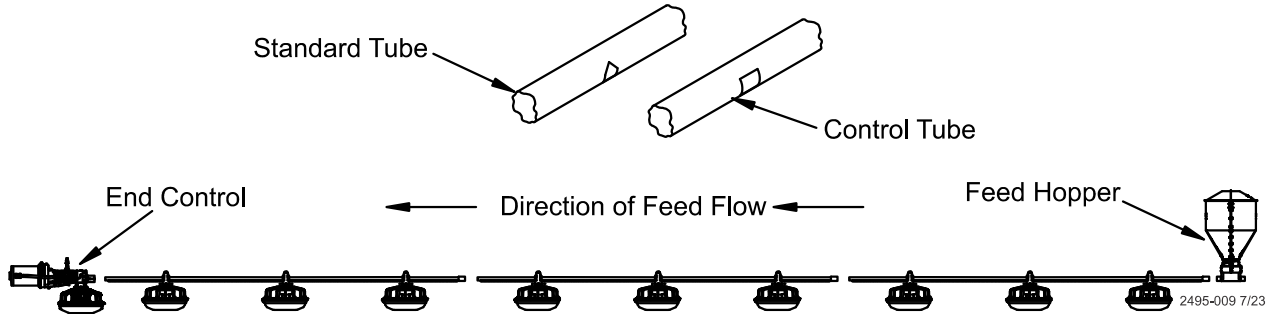

Figure 21. Attaching Feeder Tube Assemblies
1. The auger tubes and feeders may be laid out end to end in approximately the final location of the line. **The belled end of each tube should be toward the Hopper end of the line.** See **Figure 21.**